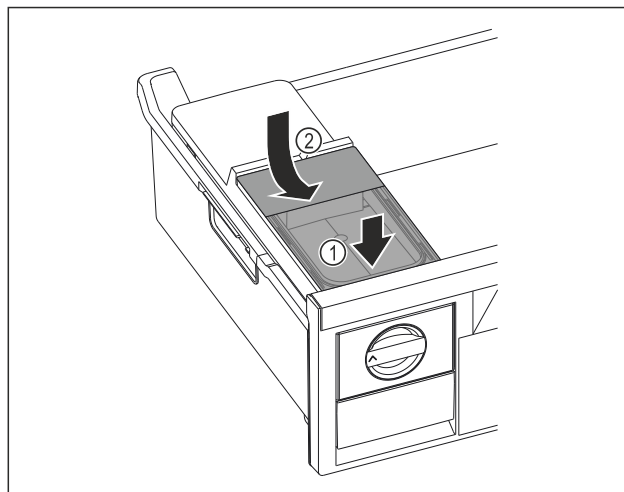

Fig. 99
- ▶ Position the water tank at the front. Fig. 99 (1)
- ▶ Lower the water tank at the rear. Fig. 99 (2)